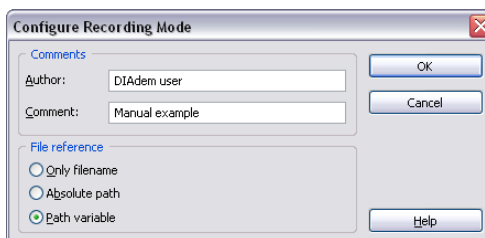

Figure 6-1. Configuring the Recording Mode
3. Enter DIAdem user as the **Author** and Manual example as the **Comment** as shown in Figure 6-1.